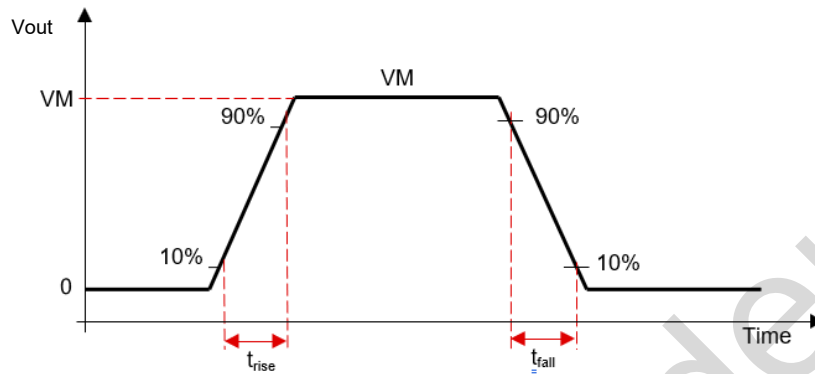

Figure 3-18 Slew Rate Timings
The slew rate of each half-bridge can be adjusted by HBX_SR bits in Slew Rate control register (SR_CTRL_1 and SR_CTRL_2). Each half-bridge can be selected to a slew rate of 0.6-V/ μ s or 2.5-V/ μ s. The slew rate is calculated by the rise-time and fall-time of the voltage on OUTx pin as shown in Figure 3-18. The slew rate (SR) is calculate as shown in Figure 3-18.